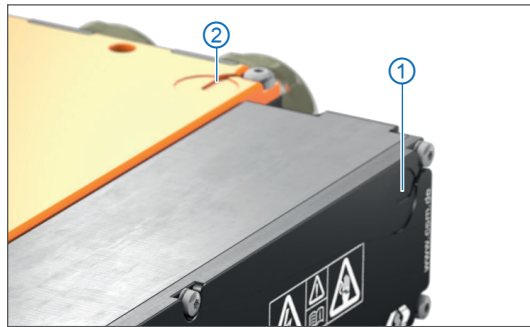

Fig. 4-1: HV BM 1.2+S, ventilation openings in the housing
HV BM 1.2+S measurement modules are equipped with two GORE™ membranes (Fig. 4-1), which are required for pressure compensation. To ensure the breathing function of the membranes, the ventilation openings in the front of the housing ① and in the lid of the housing ② must not be blocked/covered or permanently covered with water or any other liquid. There is then a risk of condensation collecting inside the housing and damaging the measurement module.